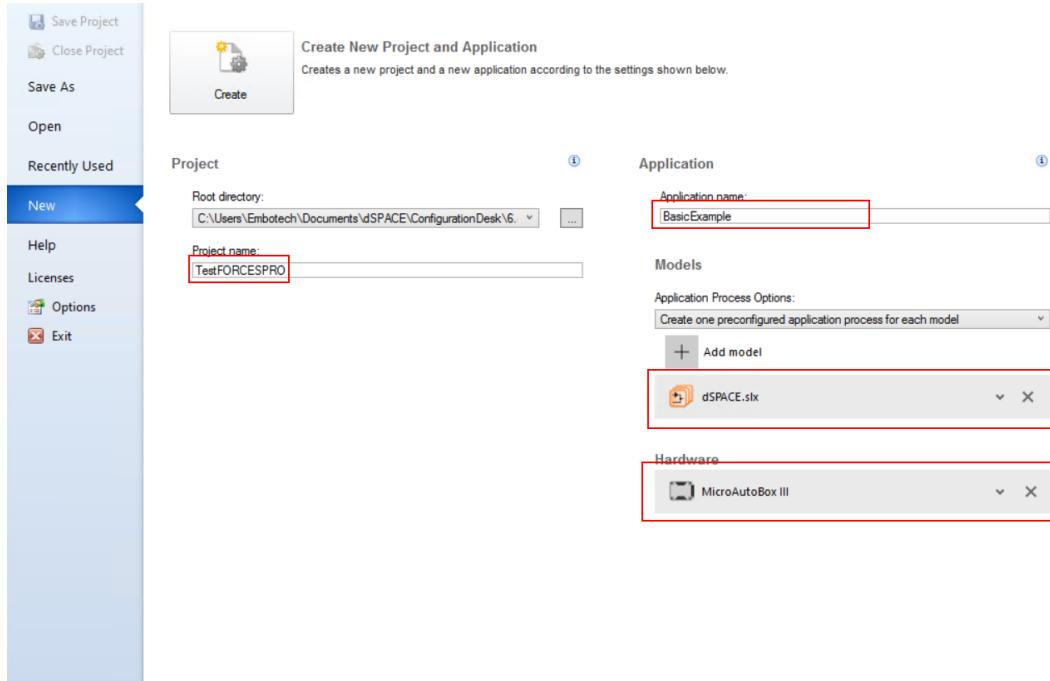

Figure 13.44: Create project and application in ConfigurationDesk.
- 15) Create a new Project and Application in ConfigurationDesk. Select directory of project, name of project and application, the model `dSPACE.slx` as the application process and connected dSPACE platform to deploy to (see Figure 13.44).